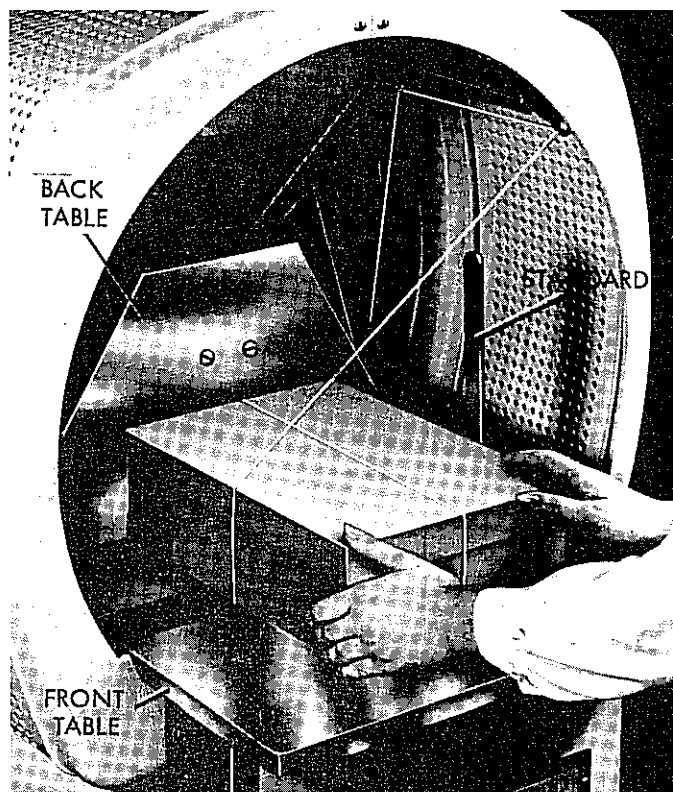

Figure 30. Twine Arm Completing Cross-Tie
6. Momentarily depress foot pedal (second time) holding package firmly until tying cycle is completed (figure 30).